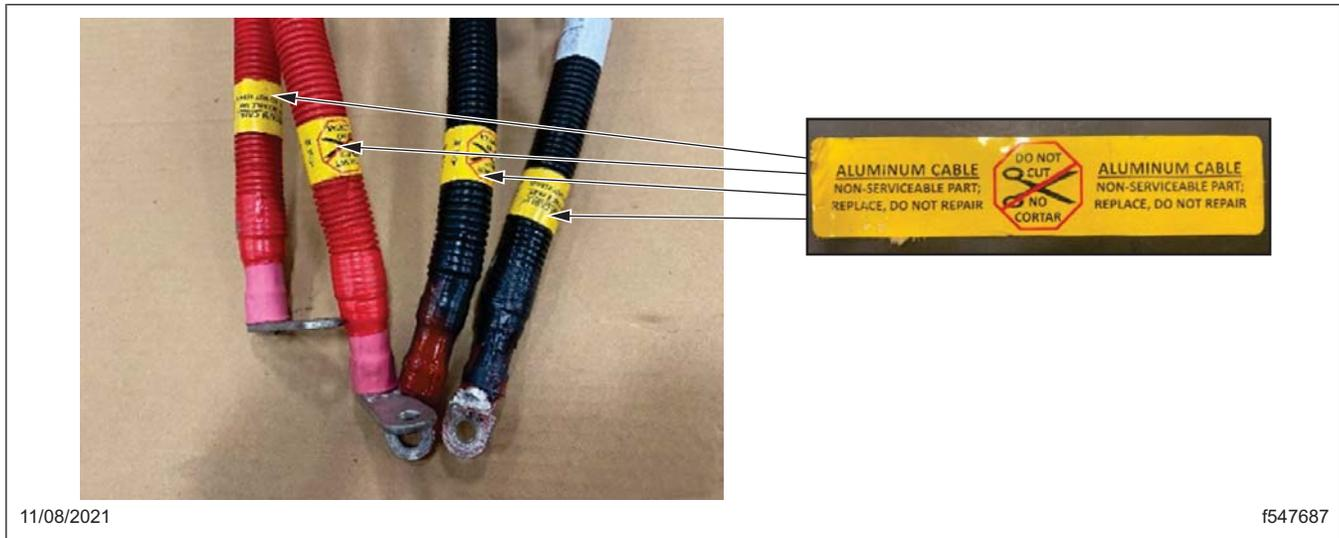

Fig. 32, Powernet Battery Cables Made of Aluminum
- The aluminum 4/0 cables are attached with a yellow label on each end indicating they are made of aluminum. See Fig. 32.